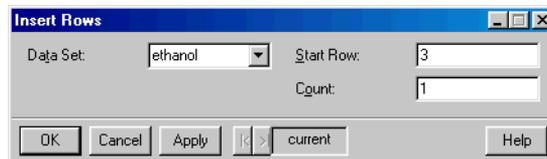

Figure 2.24: *The Insert Rows dialog.*
- From the main menu, choose **Insert ► Row**. The **Insert Rows** dialog opens, as shown in Figure 2.24.